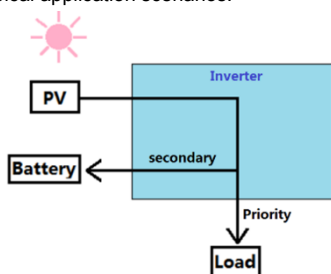

Figure1-10
- 2.. If PV is sufficient,PV supply power to the load priority, then charge battery. ( Figure1-10)